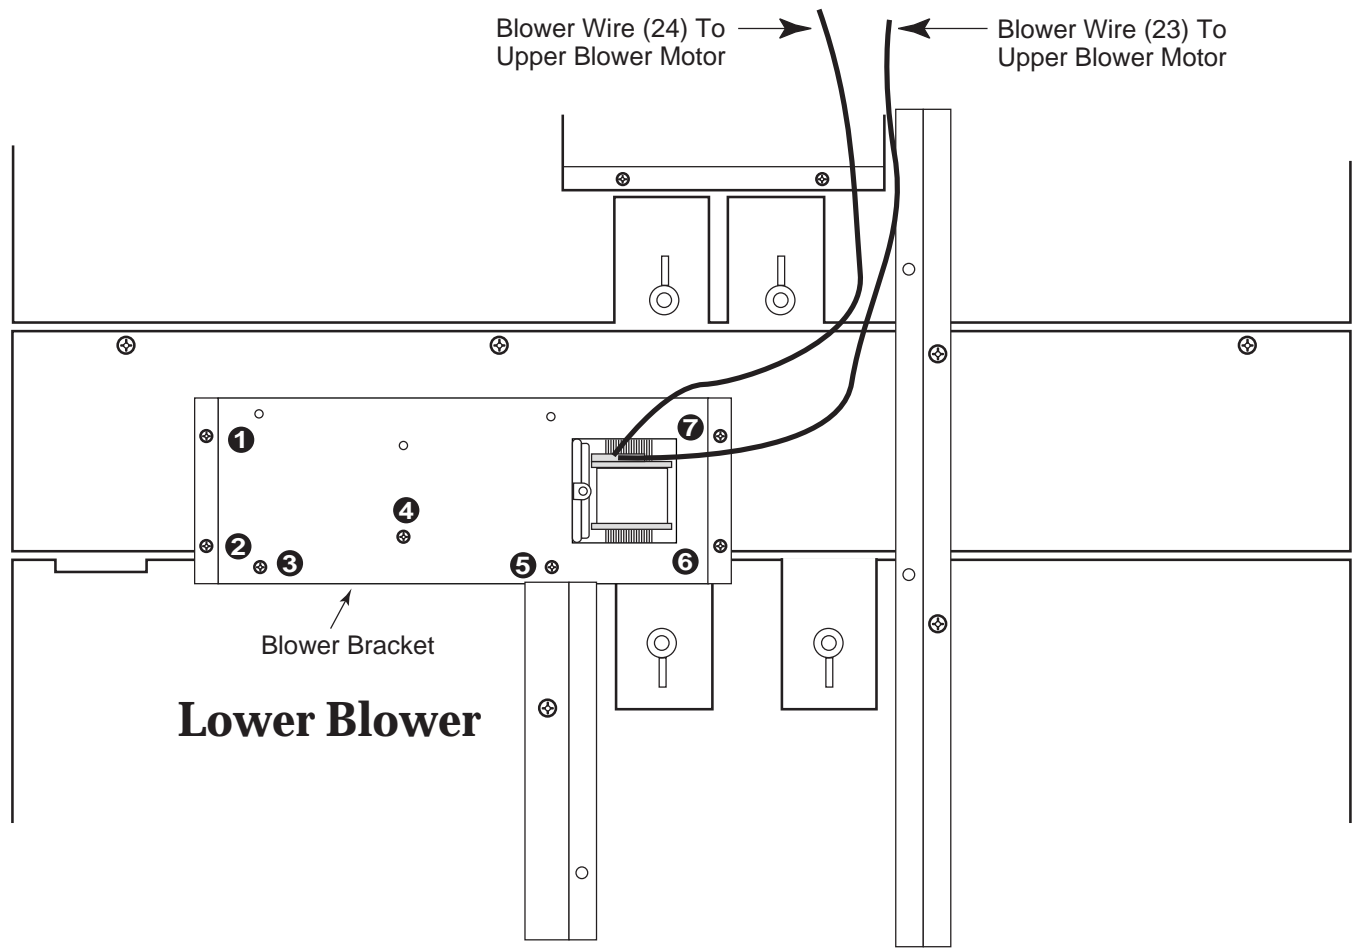

Figure 20
3. To remove the lower blower (see Figure 20):